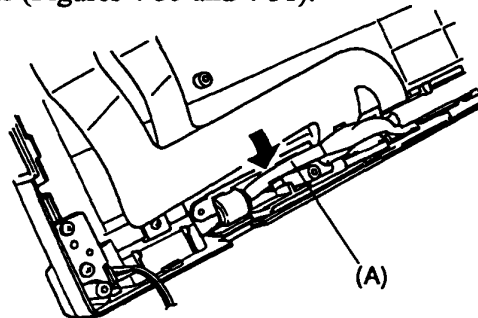

Figure 4-35 Routing the display cable in the top cover
4. Confirm that the display cable (A) is routed correctly in the top cover before securing the display cable cover in place with the (M2x4 silver) screw. The display cable should fit securely under the cover (Figures 4-35 and 4-31).